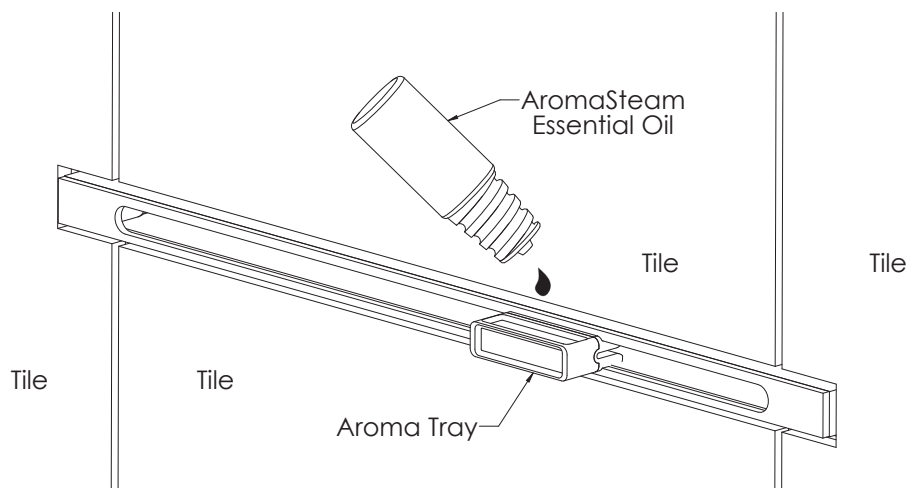
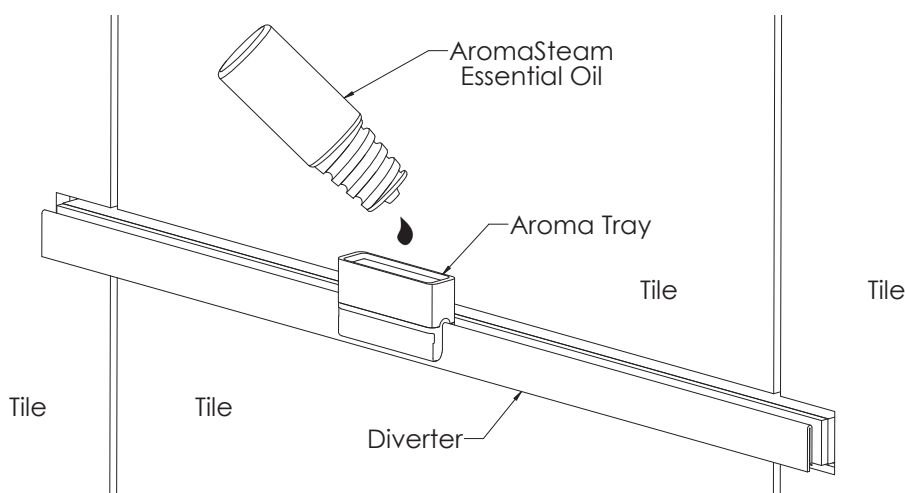

Figure 9
Figure 10
STEP 15. Place Aroma Tray in steam outlet of Linear Steam Head (see fig. 9) or on Diverter (see fig. 10). Place a drop or two of AromaSteam™ essential oil in AromaTray.